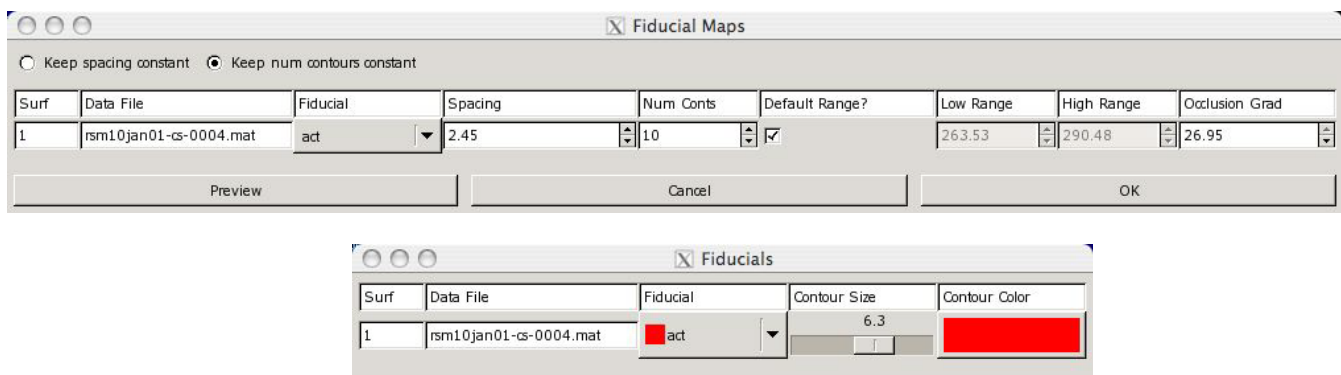

Figure 11: The Fiducials Control Windows.
The lower window in Figure 11 allows control of the display of the contour, setting the contour thickness and the color associated with each time of fiducial.
2) Multiple fiducial contours or maps: This is the more traditional model of fiducial map display in which the entire set of isochrone values maps up a map. To enable simultaneous viewing of potential and fiducials in this mode, *map3d* provides a number of options controlled by the upper interface window in Figure 11, the “p”-key, and the “s”-key. With various combinations, it is possible to display a) potentials as shaded maps with black isochrones, b) no potentials with colored isochrones, and c) potentials as black contours drawn over shaded color isochrone map. The window allows selection of the particular fiducial to display.